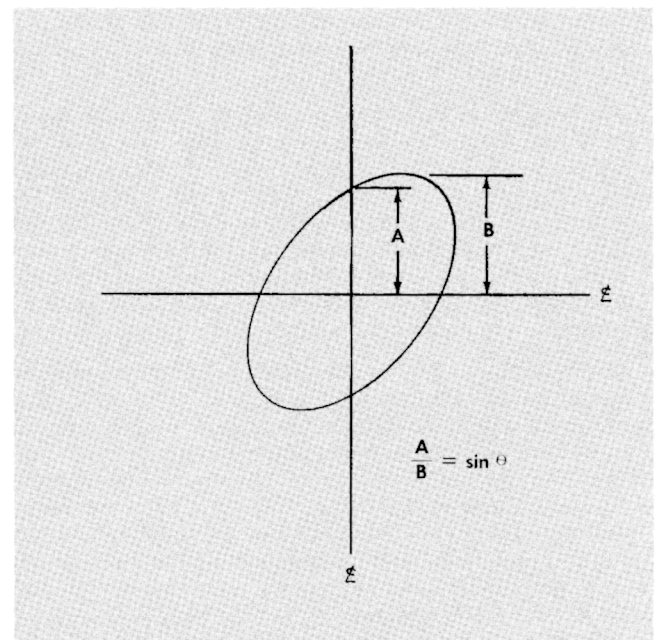

Fig. 3-5. X-Y method of calculating phase difference ( $\Theta$ ) of two sine waves.
3. Measure the distances A and B on the display as shown in Figure 3-5.